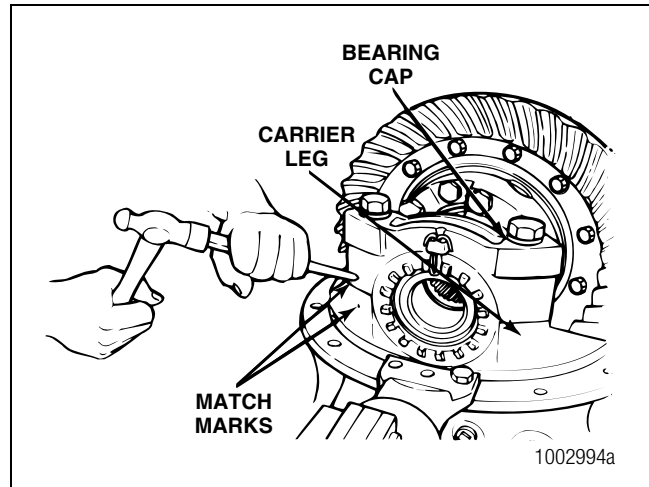

Figure 3.42
2. Use a punch and hammer to mark the position of each bearing cap on the differential carrier legs. The marks help you correctly match the caps to the carrier legs during assembly. Figure 3.42.